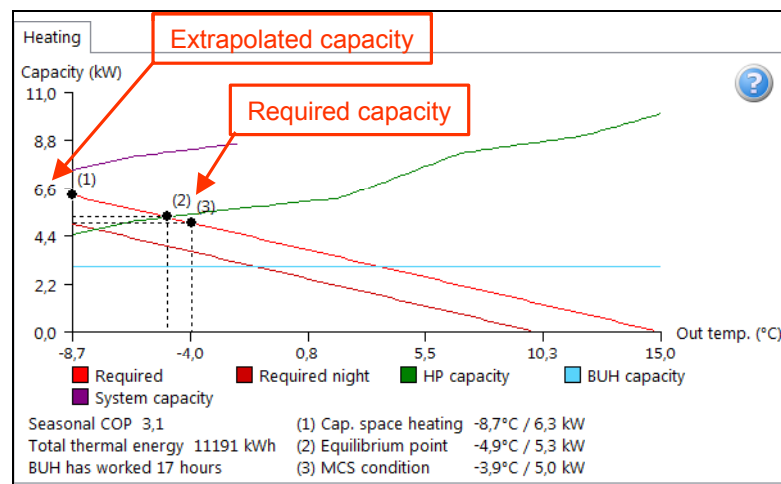

Figure 68: The result graph when using a MCS selection
Figure 68 shows the resulting graph from the result tab:
- In Figure 68, the required heating capacity at the MCS temperature is 5.0kW. The extrapolated capacity is 6.3kW at the design temperature i.e. the lowest ambient temperature for the selected location.